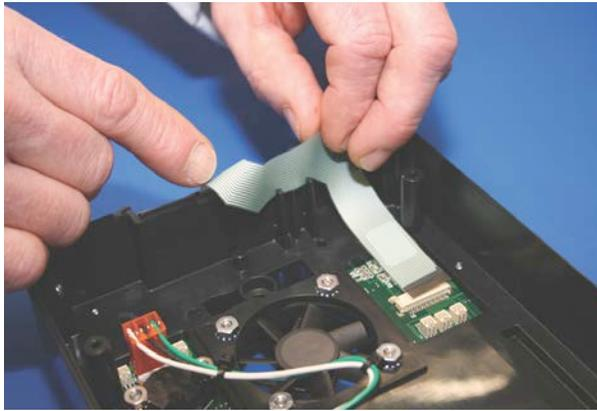

Figure 5.44
10. Bend flex circuit 180°, being careful not to crease or fold the flex circuit. (Figure 5.44)